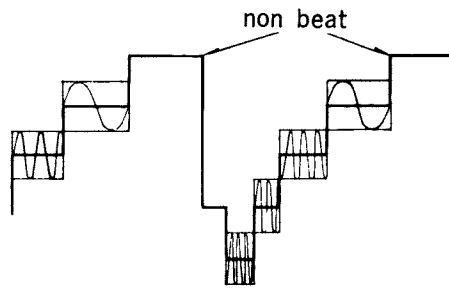

Fig. 12
5. Place the deck in E-E mode and adjust R303 for zero beat of white level at the top step of the stairstep waveform as described in Fig. 12 when the deviation reaches at the 4.5 MHz modulation of the frequency. This condition is principally called "STANDARD MODULATION LEVEL".